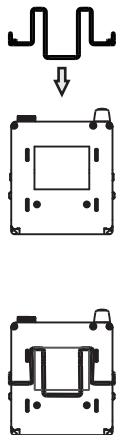
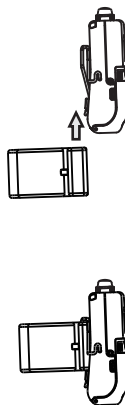

Fig. 38-1
Fig. 38-2
(A) Assemble the belt-clip with the transmitter, Fig. 38-1, and install the holder on the belt-clip, Fig. 38-2.